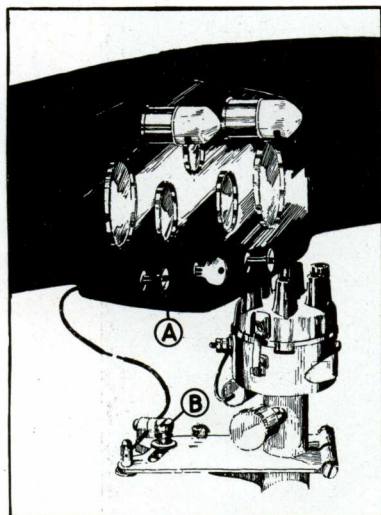

Fig. 88. Spark Advanced.
2. Fully advance the spark, as shown in Fig. 88, by making sure that control knob (A) on the instrument board is pushed all the way in, and that the stop screw (B) is at the extreme end of the slot in the timing clamp of the distributor.